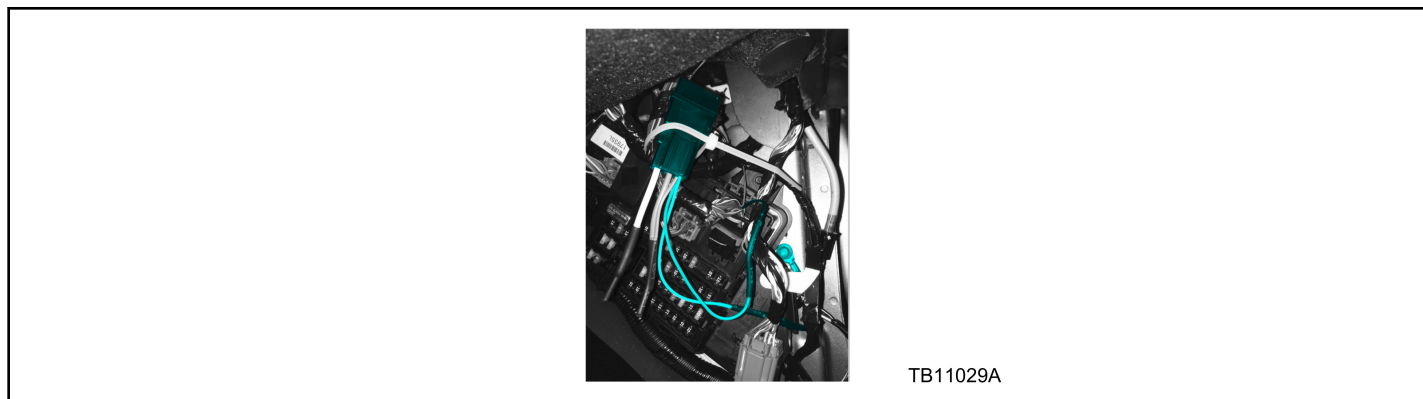

Figure 6 - Article 17-0013
12. Remove G302 terminal screw, install the ground eyelet from the relay kit and secure with a screw. Tighten the screw to 12 Nm (106 lb-in). Refer to Wiring Diagram (WD), Section 152-1.
13. Using a new wire tie strap, secure the relay kit in a vertical position to the vehicle's harness. (Figure 6)